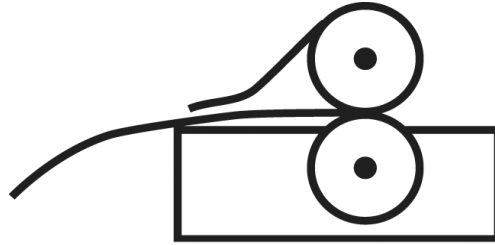

Figure 2
2. Turn adjustable knob counter-clockwise to lift the roller, insert the film into the roller for about 50 cm, then wrap one side of the film around the upper roller. Straighten the film with rollers, align two sides (to ensure the film is straight), then turn the knobs clockwise until idling (Figure 2).